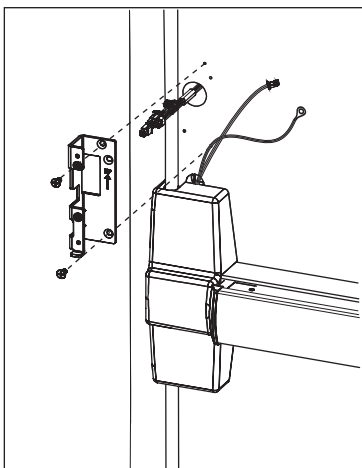

Fig. 10b
Secure mounting plate to inside door surface by fastening (2) Phillips flat head machine screws to holes on mounting plate (Fig. 10b)